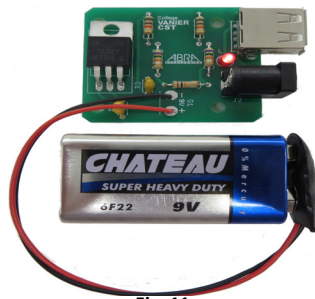

Fig. 11
11. Install a 9 volt battery and check that the LED lights up as per fig.11.